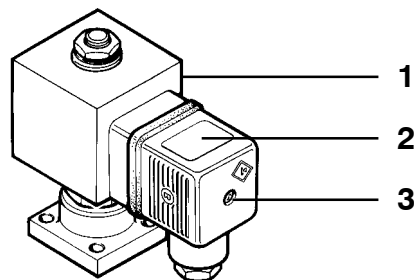

Fig. 18 Solenoid valve plug
- Prior to first operation or operation subsequent to repair work operate unit for at least 10 minutes with open condensate valves (pressureless) to ensure proper lubrication of all parts before pressure is built up. For units with automatic condensate drain, loosen screw (3, Fig. 18) on coil (1) and pull plug (2) from solenoid valve.